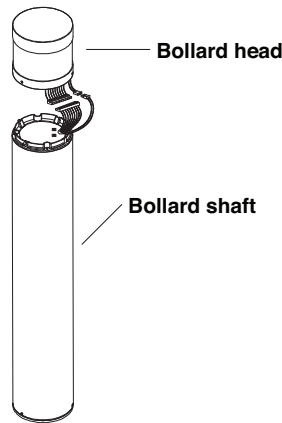
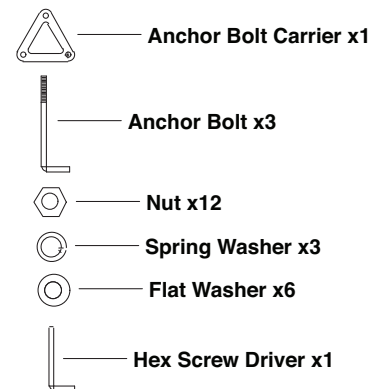

Fig. 1
Fig. 2
1. Remove the luminaire shaft (**Fig 1**), the luminaire head (**Fig 1**) and accessories (**Fig 2**) from the carton and inspect luminaire for damage. Do not install a damaged luminaire.